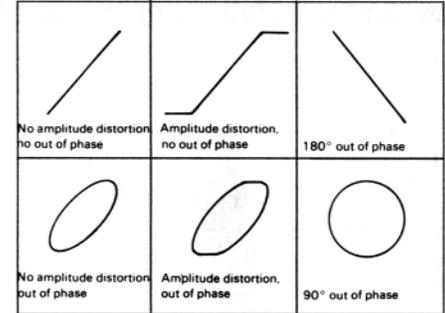

Fig. 40. Typical X-Y phase measurement displays
(Refer to Fig. 40)
5. If necessary, repeat step 3, readjusting the channel 1 and 2 gain controls for a suitable viewing size. Some typical results are shown in Fig. 40.